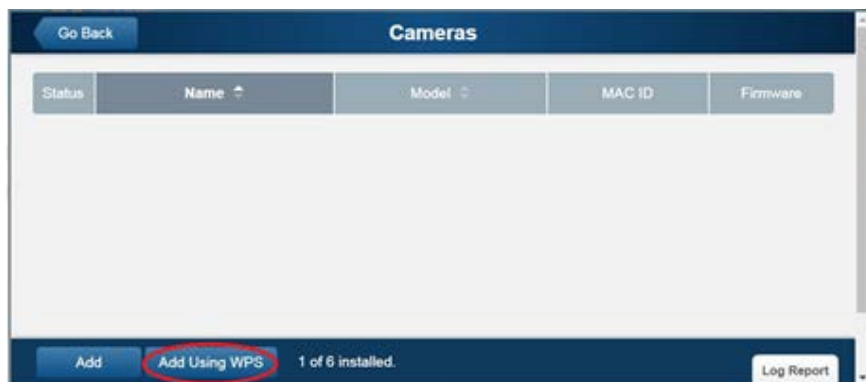

Figure 3-2 Clicking Add Using WPS Button
5. Click the **Add Using WPS** button at the bottom of screen as shown in Figure 3-2.